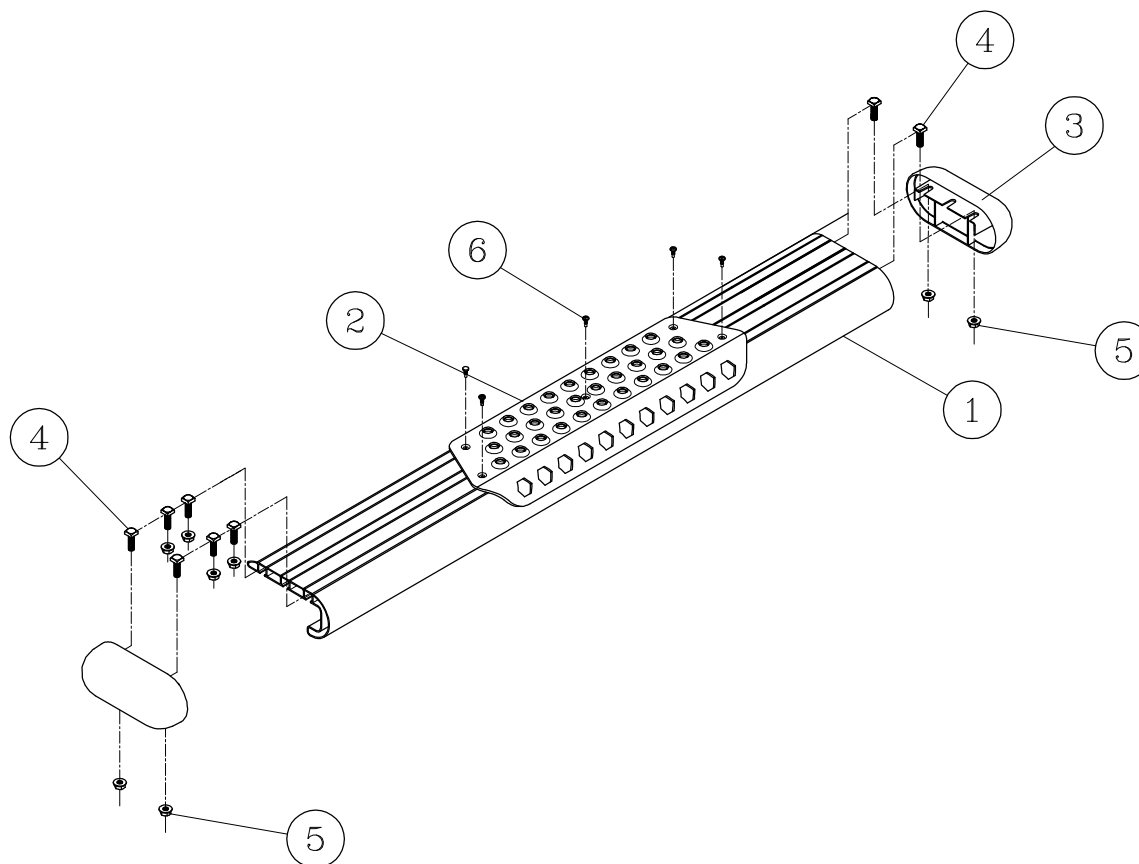

fig.1
3. BEFORE ATTACHING THE O-MEGA STEPS TO THE BRACKETS, PLACE THE STEP PADS (ITEM #2) ON TOP OF THE STEP PLATES ACCORDINGLY FOR YOUR VEHICLE. USING THE HOLES IN THE STEP PAD AS A GUIDE DRILL (5) 1/8" PILOT HOLES. ATTACH WITH (5) 8-18X1/2" TEK SCREWS (ITEM #6) PROVIDED. REPEAT FOR ALL STEP PADS.
5. INSTALL THE END CAPS (ITEM #3) AS SHOWN IN (FIG.1), TIGHTENING THE SERRATED NUTS (ITEM#5) TO 5 LB FT.
3. INSTALL THE MOUNTING BRACKETS (ITEMS #2 & #4) USING THE 5/16-18 X 1" HEX BOLTS (ITEM #8), 5/16" FLAT WASHERS (ITEM #15) AND 5/16" LOCK WASHERS (ITEM #16) AS SHOWN IN *fig. 1*. INTO THE MULTI THREAD U-NUTS. FINGER TIGHTEN ONLY AT THIS TIME.
4. INSTALL THE 5/16-18 X 1" HEX BOLTS (ITEM #8), 5/16" FLAT WASHERS (ITEM #15) AND BLACK PLATED 5/16" SERRATED FLANGE NUTS (ITEM #14) THROUGH THE HOLES IN THE LOWER PINCH WELD AND THE BRACKET AS SHOWN IN *fig 1*. FINGER TIGHTEN ONLY AT THIS TIME. **(NOTE: IF YOUR VEHICLE DOES NOT HAVE HOLES IN THE PINCH WELD THEY WILL HAVE TO BE DRILLED. MAKE SURE THE BRACKETS ARE TIGHT AGAINST THE BODY PANELS, AND USING THE HOLE IN THE BRACKETS AS A GUIDE, DRILL AN Ø11/32" HOLE THROUGH THE PINCH WELD AT EACH BRACKET.)**